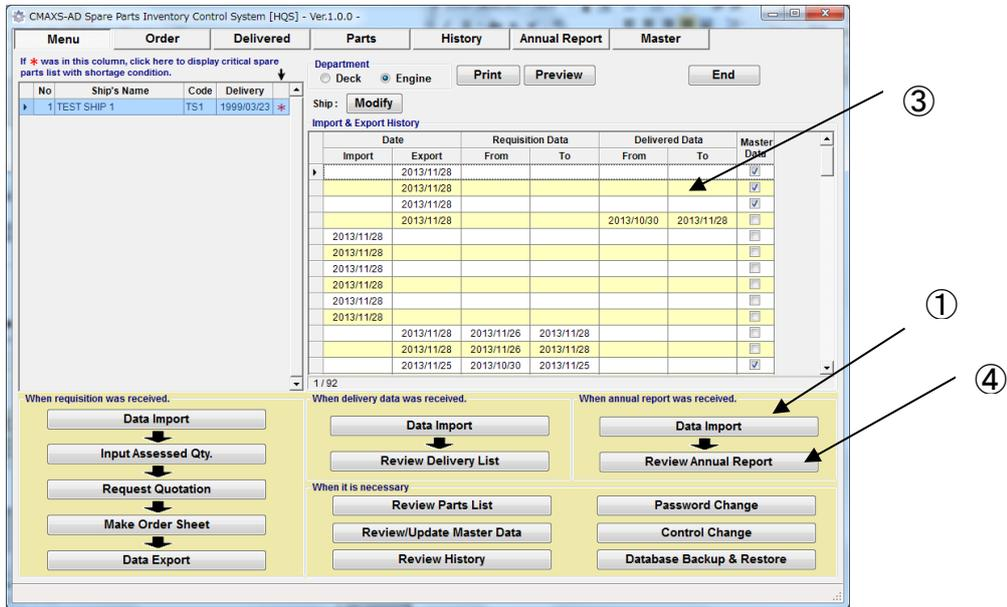

Fig.11-1 Menu Screen
- (1) On the "Menu Screen"(Fig.11-1), select [Data import].
- (2) Select [OK] at completion message dialog.
- (3) Import history is recorded on "Import & Export History".
- (4) On the "Menu Screen" (Fig.11-1), select [Review Annual Report].